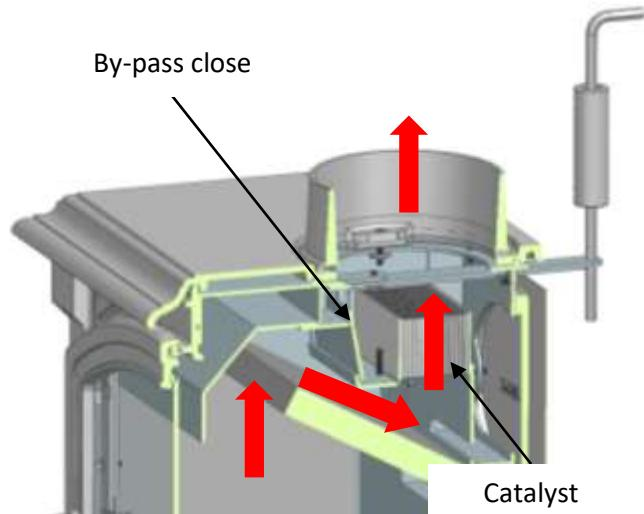

Fig. 19
5. When the fire is well established, slide the Burn Type Lever to the top for normal operation with wood ("A"). Then adjust the Burn Rate Knob to the desired heat output, either manually or with the remote control. If you have the Catalytic Hybrid Woodbox System, close the by-pass to allow the flue gases pass through the catalyst (Fig. 19) to achieve the maximum efficiency of the stove. **Use the tool provided and protect your hands for such operation.** In addition, if you have an optional draft control (fig. 10), you can regulate combustion by operating its control.